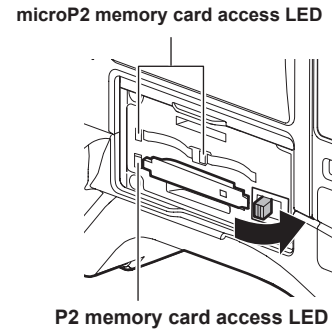

Fig. 3
- Press the eject button that pops up to the right. (Fig. 3)
#### 4 Make sure that the P2 card access LED is lit orange or green. (Fig. 3) (page 48)